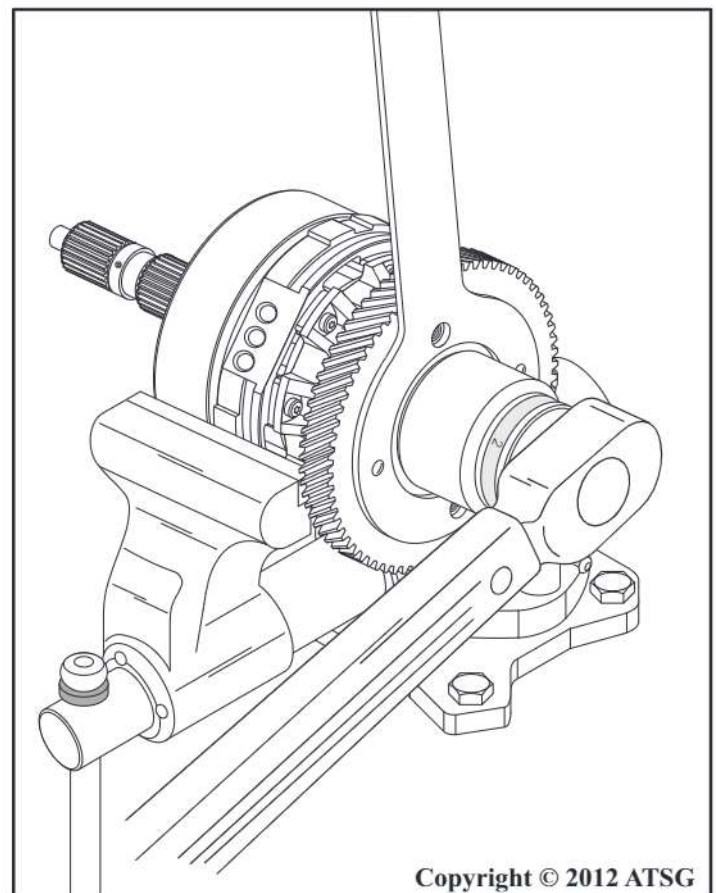

Figure 160
12. You can mount the assembly into a bench vice, as shown in Figure 160, to make this process less difficult.